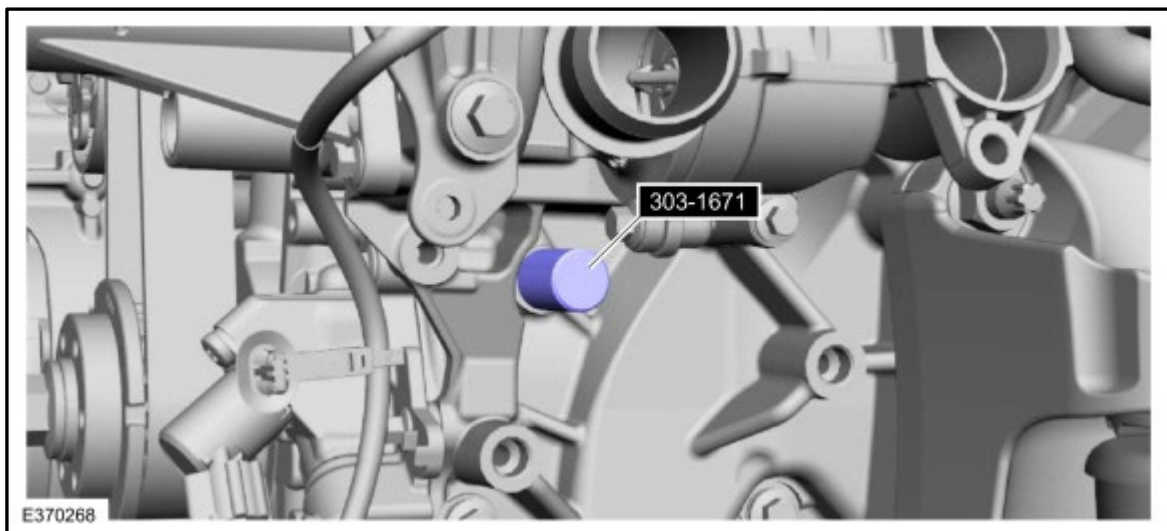

Figure 27
V. Remove Locking Crankshaft Pin Special Service Tool: 303-1671. Figure 27